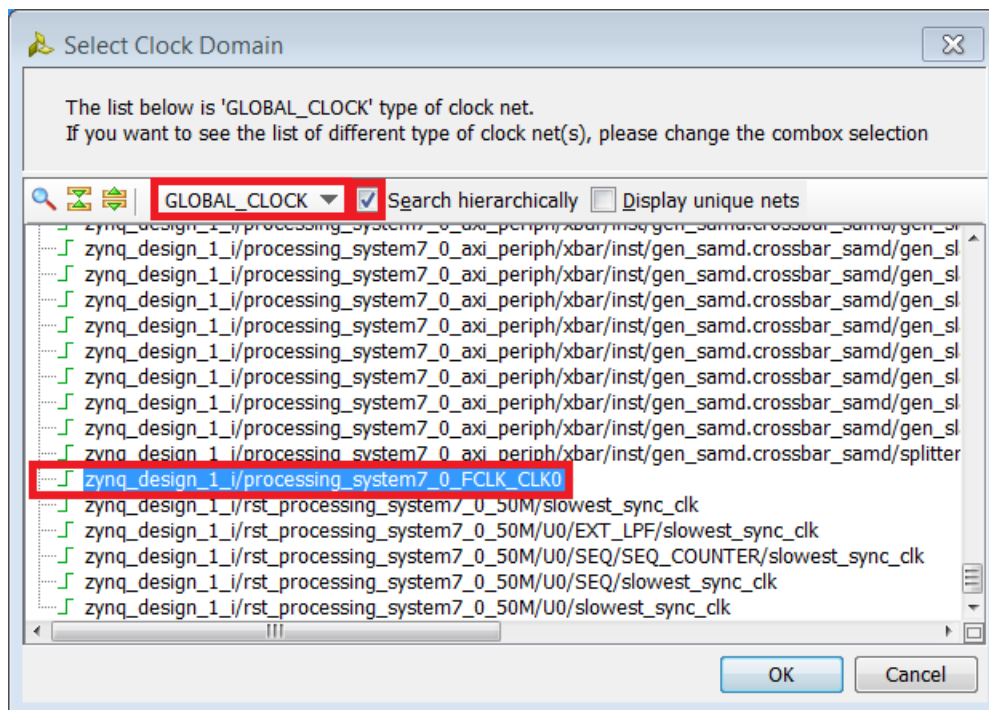

Figure 24: Select Clock Domain Option
- Select the `zynq_design_1_i/processing_system7_0/FCLK_CLK0` net as the clock domain (FIGURE 24).